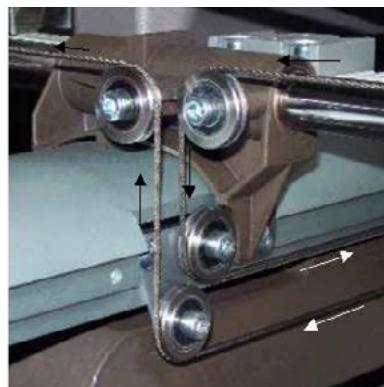

Figure 5 - Right Beam Cable Pulleys (Arrows indicate direction of cable to the front)
- Run the cable around the bottom right beam pulley (see figure 5), around the right front carriage pulley into the cable access hole to the front of the machine.